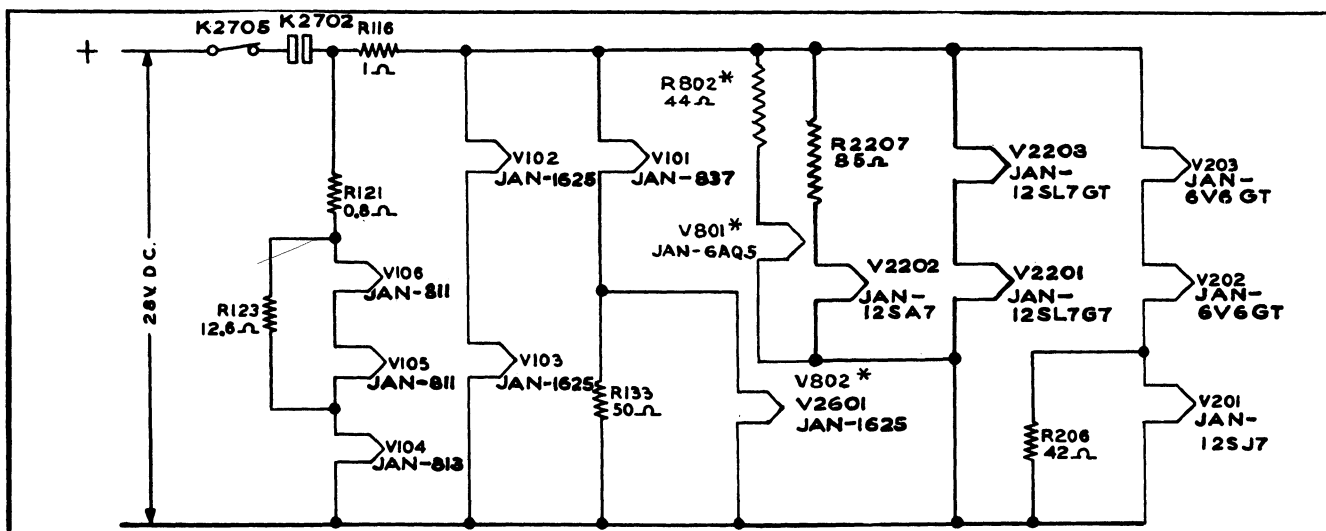
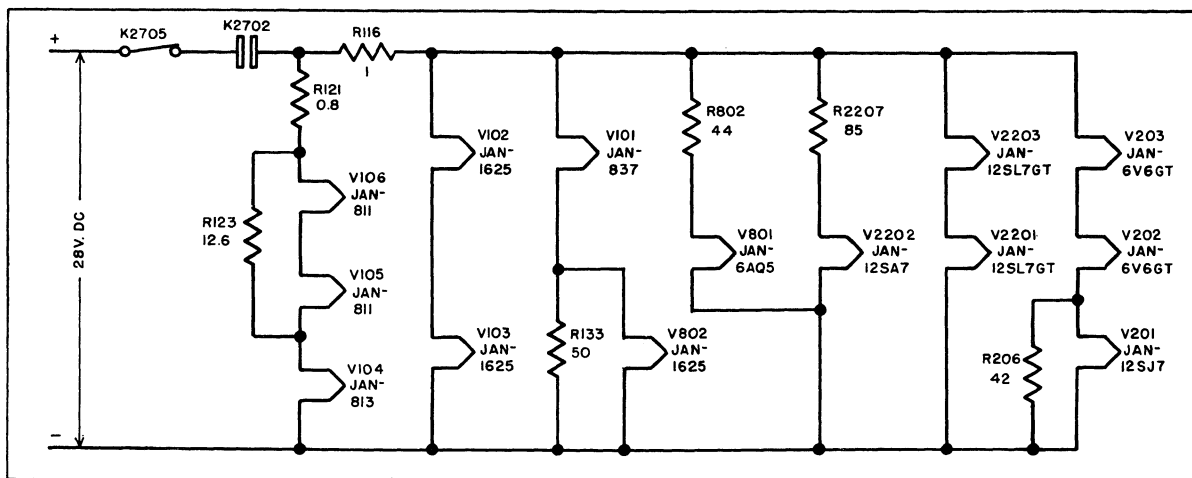

Figure 4-3. Filament Circuits AN/ART-13A and AN/ART-13B
Figure 4-3A. Filament Circuits — AN/ART-13B
(12) The power change relay, K2701, operates when the pressure is reduced to a pressure corresponding to altitudes between 20,000 and 25,000 feet above sea level by the operation of the pressure operated relay, K2704. If the transmitter is operating with VOICE emission, power change relay coil K2701A is energized by the circuit through the normally closed contacts of primary overload relay K2705, primary power contactor contacts K2702B, Autotune motor control relay contacts K101B, the contacts of Autotune limit switch section S111, the contacts of safety interlock switch S117, power change relay coil K2701A, the contacts of pressure operated relay K2704, the contacts of "voice" relay K104 and the closed circuit of MICROPHONE jack J102. If the transmitter is operating with CW emission and pressure operated relay K2704 has operated, the operating circuit for power change relay K2701 is through the normally closed contacts of primary overload relay K2705, primary power contactor contacts K2702B, Autotune motor control relay contacts K101B, the contacts of Autotune limit switch section S111, the contacts of safety interlock switch S117, power change relay coil K2701A, the contacts of pressure operated relay K2704 and CW relay contacts K103B. If the transmitter is operating with MCW emission, the energizing circuit for power change relay K2701 is through the normally closed contacts of primary overload relay K2705, primary power contactor contacts K2702B, Autotune motor control relay contacts K101B, the contacts of Autotune limit switch section S111, the contacts of safety interlock switch S117, power change relay coil K2701A, the contacts of EMISSION selector switch S110 or S602 and the contacts of LOCAL-REMOTE switch S107.
b. FILAMENT CIRCUITS.—The filament power circuits of the transmitter are a combination of series and parallel connections. The filaments are supplied with power from the 28 volt d-c source. Figure 4-3, covering Model AN/ART-13A and Figure 4-3A covering Model AN/ART-13B, show the filament circuits in simplified form. All filament power is controlled by primary power contactor contacts K2702. The primary overload relay, K2705, operates to break the fila-